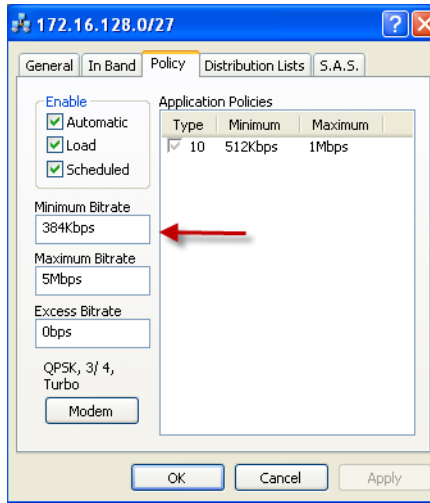

Figure 3-50 Remote CIR Setting
2. Open the **Policy** tab and set the **Minimum Bit Rate** for the Remote (figure 3-50).